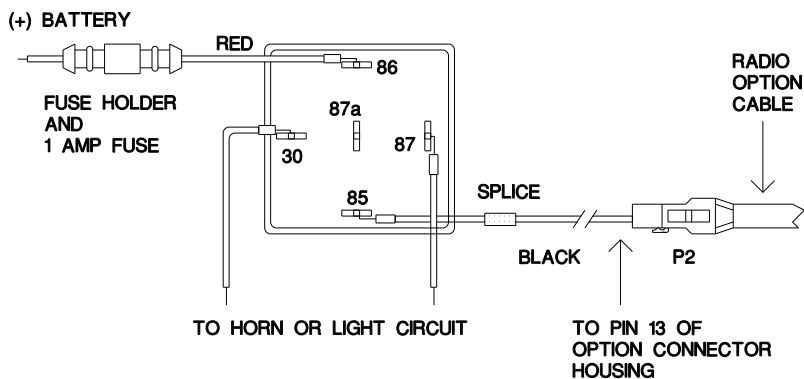

Figure 10 - External Alarm Relay
3. Crimp an insulated 1/4 inch spade tab receptacle to one end of the #18 red wire. Connect the receptacle to relay lug #86. Cut the red lead so the fuse assembly is close to the voltage source. Install the fuse holder. Attach the other end of the fuse lead to the voltage source with appropriate hardware. See Figure 10.